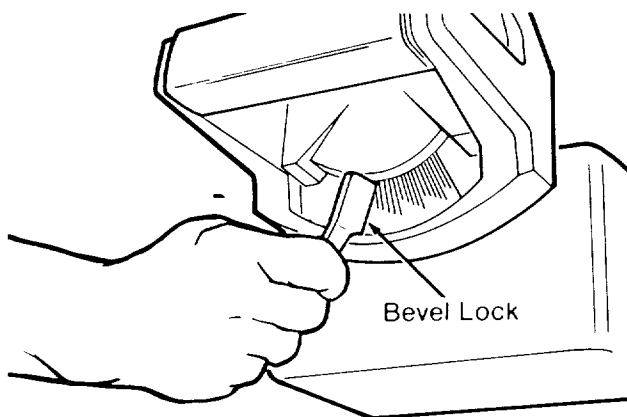

Fig. 16
10. Push the *bevel lock* to the left as far as it will go. (Figure 16)